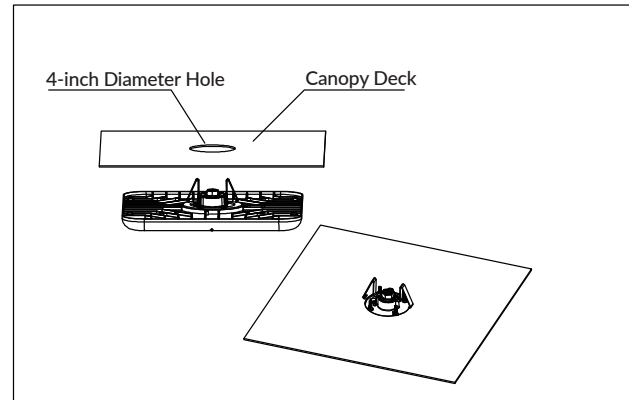

Figure 2
- Align the Spring Locks with the hole in the canopy deck and push the Luminaire Part into place (Figure 2).